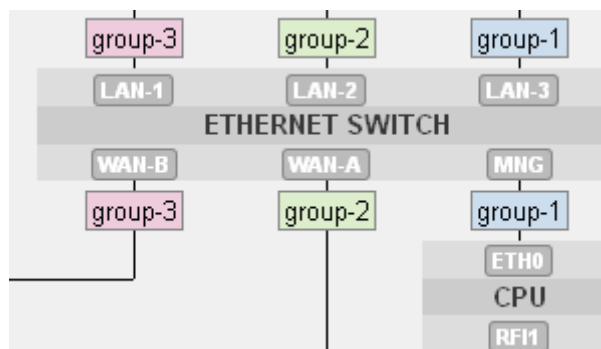

Figure 4-10 Default Configuration of Internal ETH Switch
- Group No.2 is generally designated for traffic purposes (see Figure 4-10).